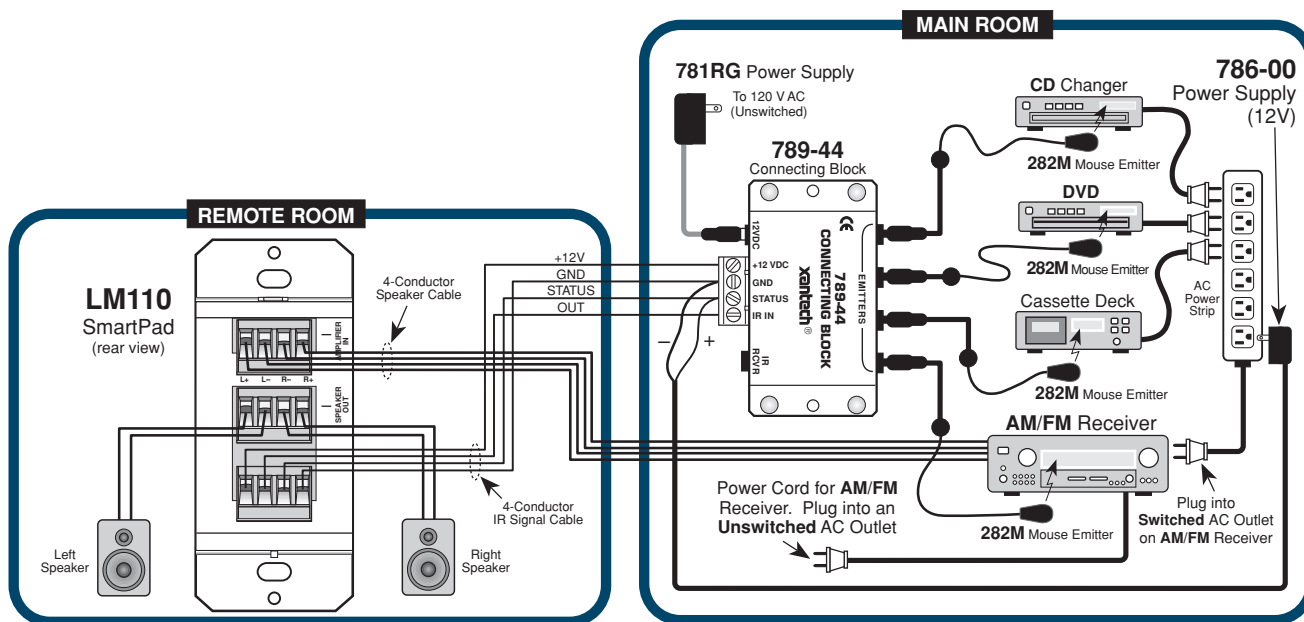

Fig. 6 Typical Connection Diagram, Based on Client Specification, page 12.
- The keypad is now ready to be wired into the total system. See **Fig. 6**. Power may then be applied and we can proceed with the Programming of each button.
NOTE: STATUS and AC power management are accomplished using sequenced commands and the Switched AC Outlet on the AM/FM receiver. Refer to **Fig. 6**.
You can now test these learned commands. But first, be sure the AM/FM receiver's Power is turned OFF and the emitters are placed on each of the components as shown in **Fig. 6**.